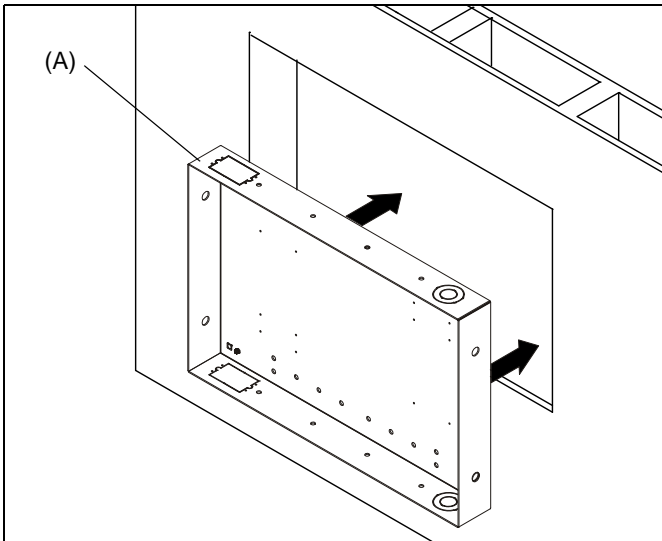

Figure 3
1. Install PAC-GB1 Listed electrical box accessory (not included) into the PAC502 (A) following instructions included with the PAC-GB1.
- Center PAC502 (A) in opening and insert into opening. Align front of box with front face of wall. (See Figure 3)